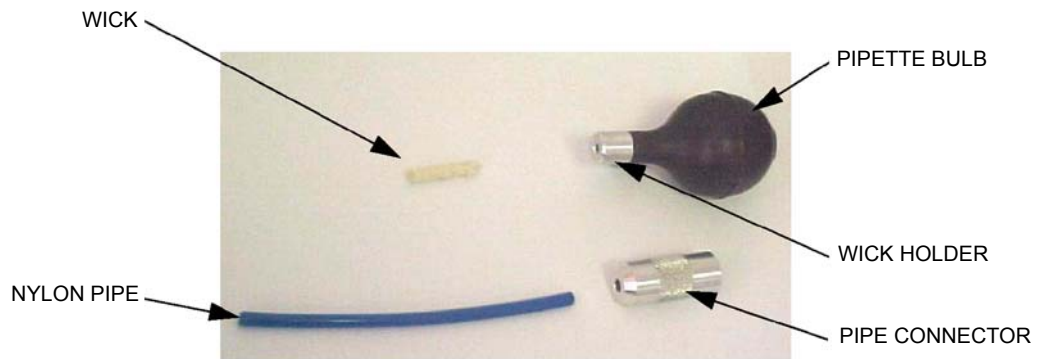

Figure 26: Smoke Tester
- a. Cut a length of wick approximately 30 mm long. Assemble the smoke tester by pushing the wick into the wick holder fitted with the pipette bulb. Press the nylon pipe into the Pipe connector (refer to Figure 26).